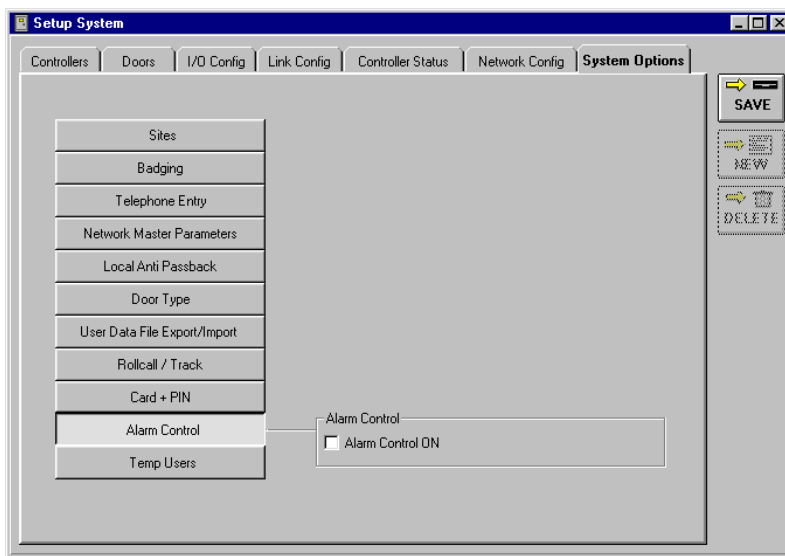

Figure 15: System Options Tab - Alarm Control OFF
- To enable Alarm Control, click on the Setup ⇒ System pull-down menu or click the  button on the tool bar. Click on the **System Options** tab followed by the  button. The System Options window should look similar to Figure 15.